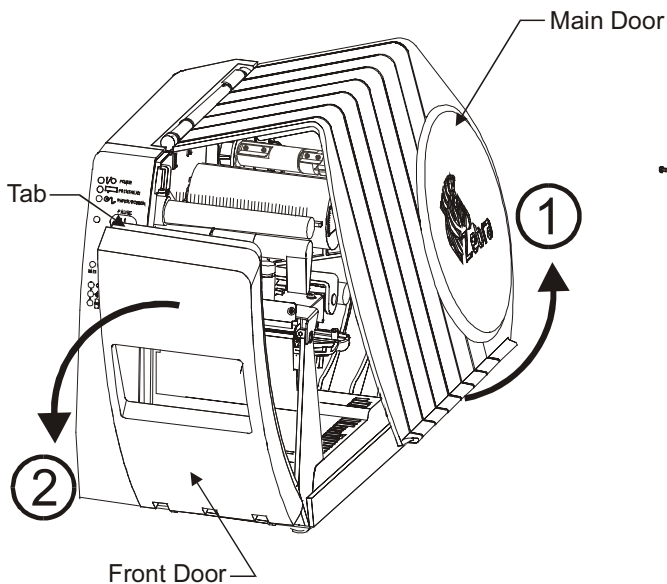

Figure 1.
3. Lift on the main door and swing it up and to the left until it rests on top of the right side cover (see Figure 1).